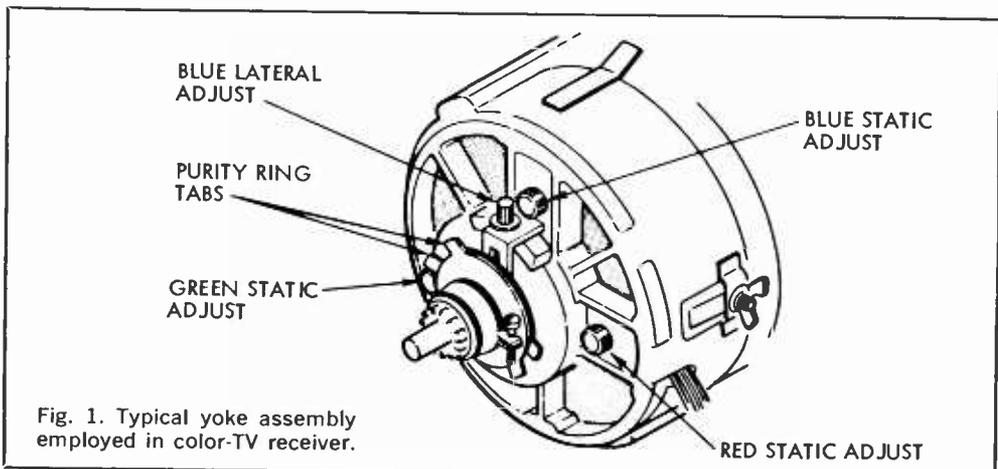

Fig. 1. Typical yoke assembly employed in color-TV receiver.
Referring to Fig. 1, loosen but do not remove the three wing-nuts located on the yoke assembly at the back of the picture tube. Grasping two of these nuts, ease the yoke backward (toward you) until a red "blob" of color appears approximately in the center of the screen. (You may have to advance the RED SCREEN control.) Center the blob with the tabs on the blue lateral assembly. Then slide the yoke forward (away from you) until the red area just fills the screen and tighten the wing-nuts.
Fig. 1. Operated in avalanche, Q1 serves as pink noise source. To preserve constant-level signal characteristics, C2 shunts appropriate levels of high frequencies away from earphone.
**Theory of Circuit Design.** As can be seen from the schematic diagram of Fig. 1, the circuit of the Chatter Jammer is very simple. Transistor Q1 is a silicon type that has a low emitter-to-base breakdown voltage rating. The base-emitter junction is reverse biased by the two series-connected 9-volt batteries that make up B1. In this setup, the base-emitter junction is operated in an avalanche condition.